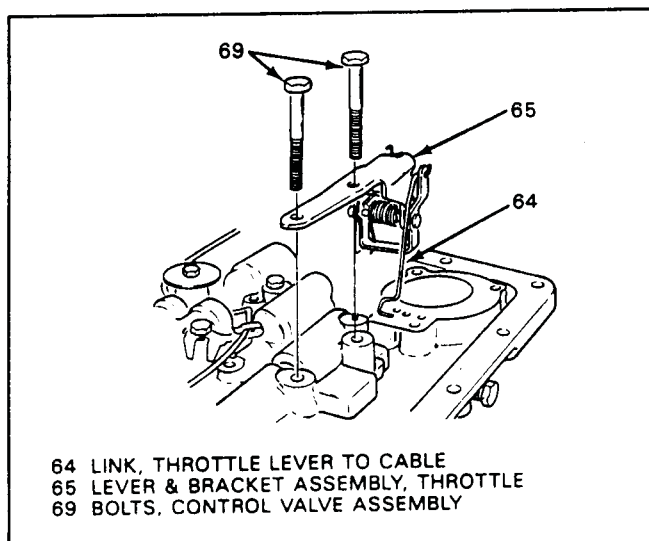

Figure 196
22. Install the T.V. link into bracket and install the T.V. lever and the bracket assembly onto the valve body with two bolts as shown Figure 196.